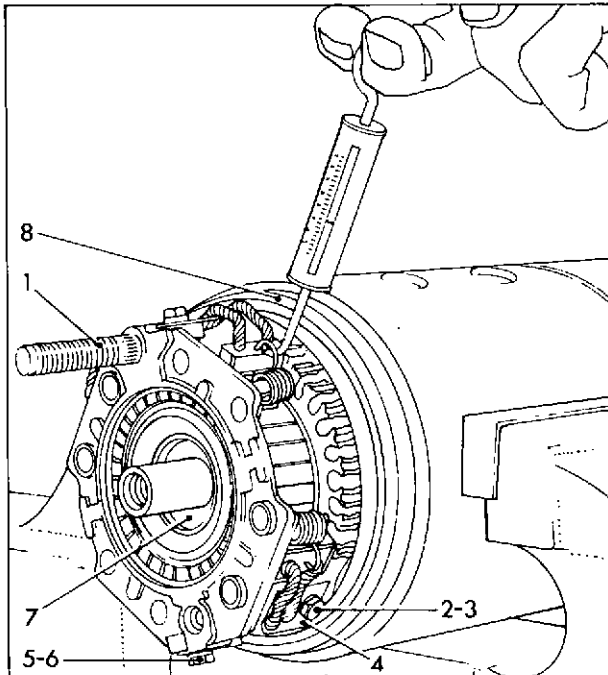

Fig. 26 Replacing brushgear
terminal post (1) fig. 26 in line with the register pip on the yoke end.
3. Fit screw (2) with spring washer (3) through each positive brush lead tag (4) and screw through the brushgear into the brushgear assembly. Do not fully tighten the screw.
4. Insert the brushes into their holders and secure the remaining two unattached leads with screws (5) and spring washers (6), tightening to a torque value of 1.69 to 2.03 Nm (15 to 18 lbf. inch).
5. Smear the original shims (7) with Aero Shell 16 grease and replace them in the recoil housing, thickest shim last.
6. Renew the sealing ring (8).